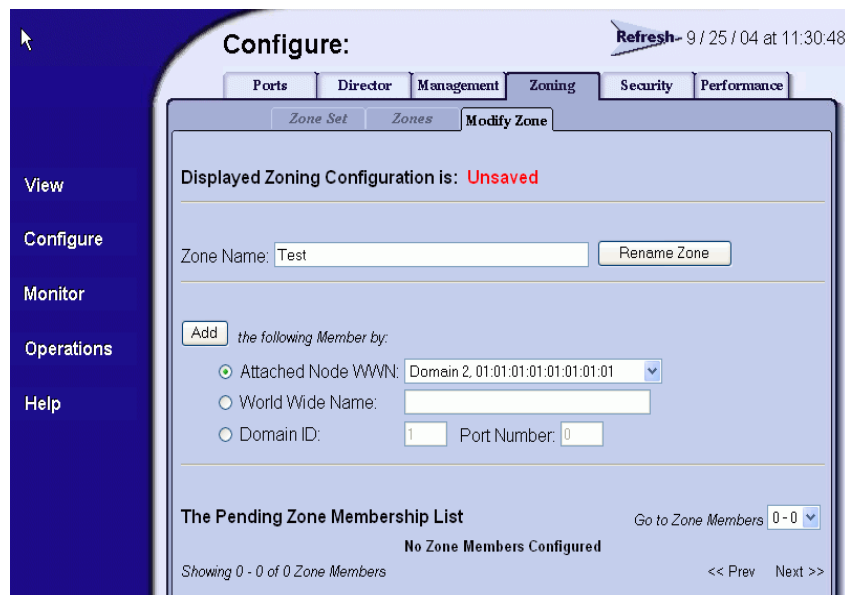

Figure 2-83 Configure Panel (Zoning Page with Modify Zone Tab)
4. To add devices (members) to the zone, click the zone name (**Zone-1**). The *Zoning* page displays with the *Modify Zone* tab selected (Figure 2-83).